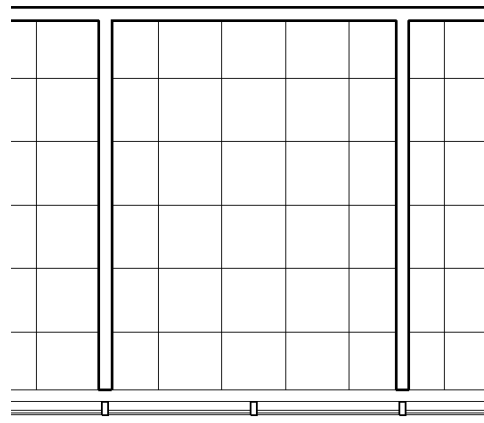

Figure 7-4.7
12. Use the **Move** tool to move the grid 12" to the East (Figure 7-4.7).